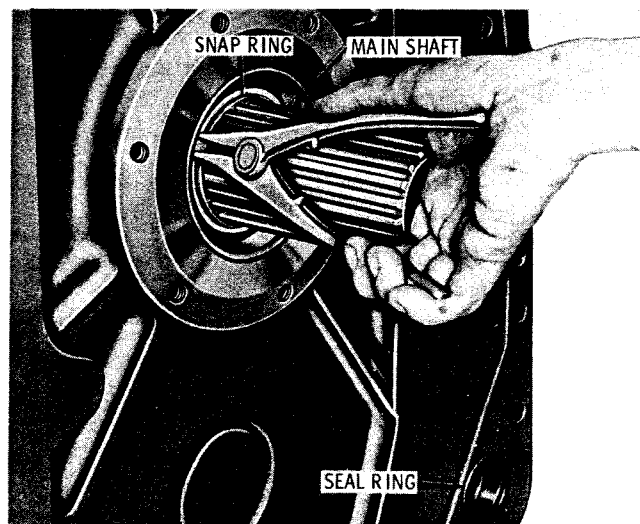
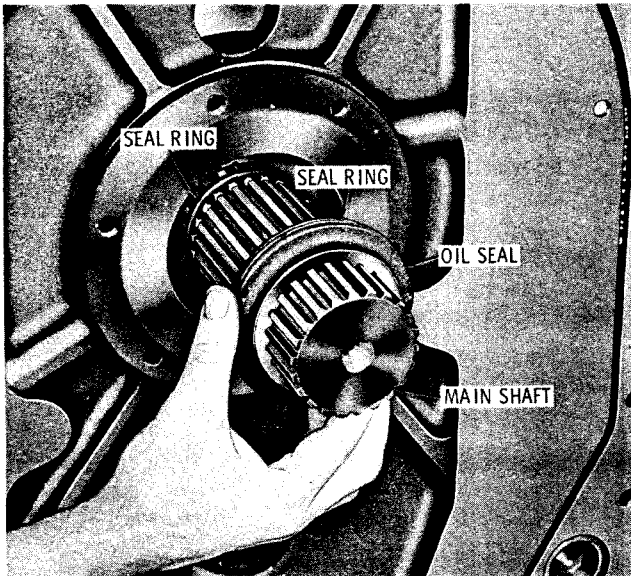

Fig. 5-8. Removing main shaft snap ring
Fig. 5-9. Removing main shaft oil seal components
(5) Remove the snap ring from the main shaft (fig. 5-8). Remove the oil seal from the main shaft (fig. 5-9). Remove the seal ring from the main shaft, and the seal ring from the oil seal.
(6) On transmissions with serial numbers prior to 26374, remove the seal ring near the lower-right side of the transmission housing (fig. 5-8).
(7) Position the transmission housing, rear downward, on wood blocks so that the main shaft is clear of the work surface.